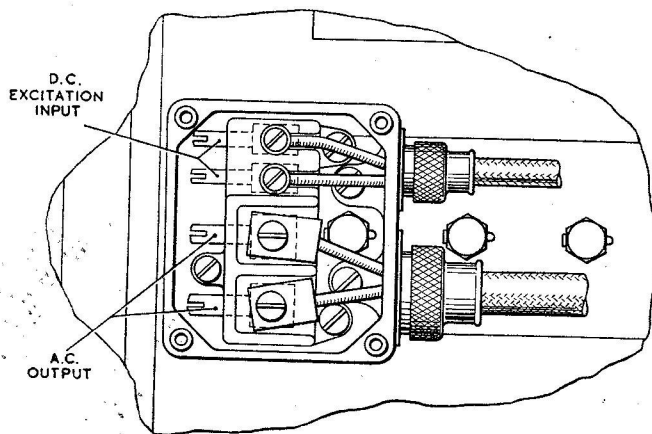

Fig. 5. Terminal connections
9. Two cable glands are provided to the terminal block; the smaller gland for the 24-volt d.c. supply and the larger for the a.c. output. The appropriate cable connections are shown in fig. 5.